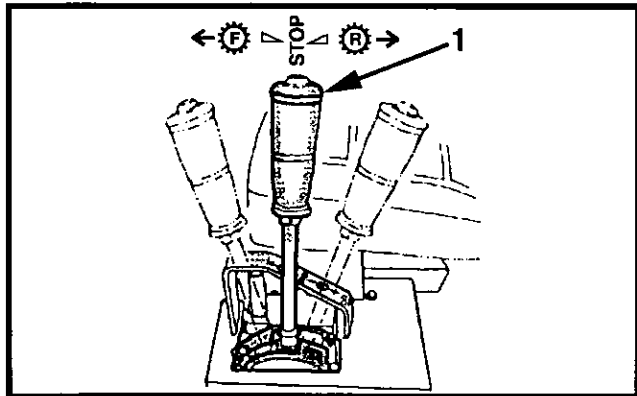

Figure 4-16 Propulsion Control Lever
5. Slowly move propulsion control (1, Figure 4-16) to achieve desired direction and safe speed of travel as determined by the conditions. The further the control is moved from STOP position the greater the speed in that direction.